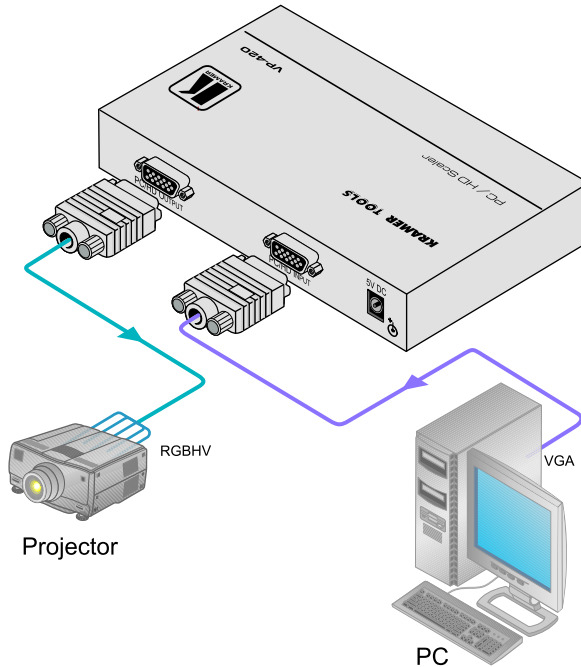

Figure 3: Connecting the VP-420 PC/HD Scaler
To connect your **VP-420/VP-421**, as illustrated in the example in *Figure 3* do the following:
4. Connect the 5V DC power adapter to the power socket and connect the adapter to the mains electricity (not shown in *Figure 3*).